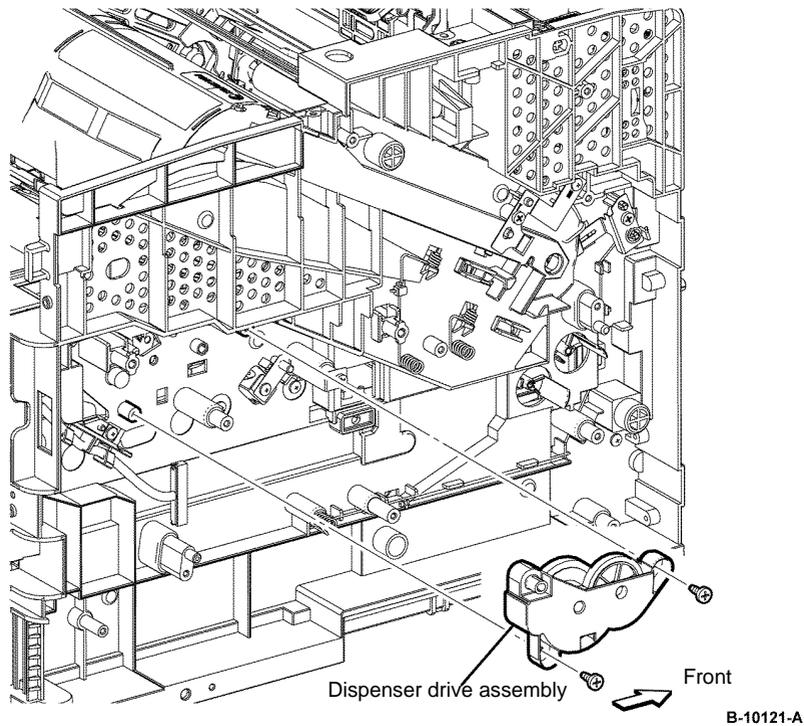

Figure 2 Dispenser drive assembly removal
10. Remove two screws (silver, tapping, 10mm), that fix the dispenser drive assembly, then remove the dispenser drive assembly, Figure 2.